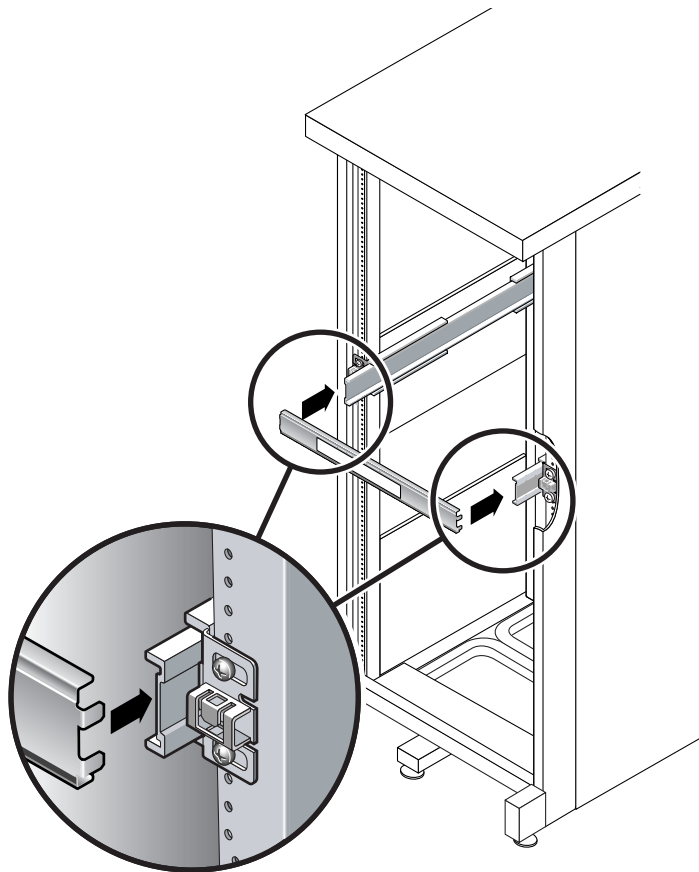

FIGURE 2-16 Using the Slide Rail Spacing Tool to Adjust the Distance Between the Slide Rails
- a. At the front of the rack, plug the left side of the tool into slots at the end of the left rail (FIGURE 2-16).